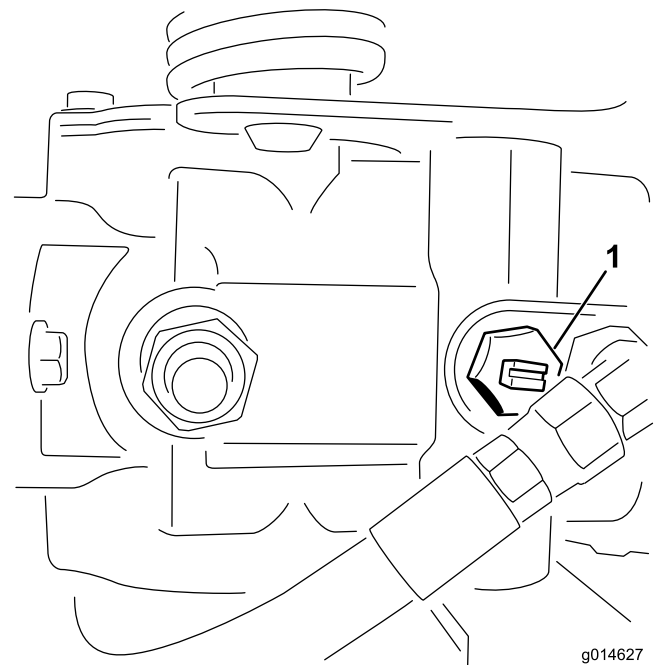

Figure 40
2. Before starting the engine, close the bypass valve by rotating it so that the slot is horizontal (Figure 40). Do not start the engine when the valve is open.
1. Locate the bypass valve on the pump and rotate it so that the slot is vertical (Figure 40).